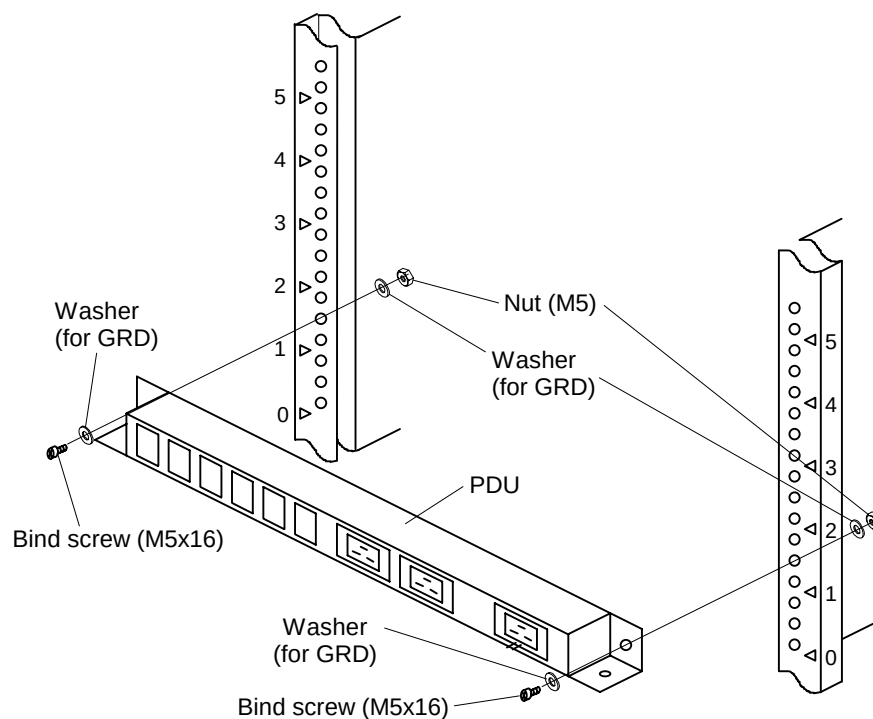

Figure 7.7.1 Installing the UPDU (Horizontally)
- When installing the PDU horizontally, fasten it with the M5×16 binding screws and the washers (see Figure 7.7.1).